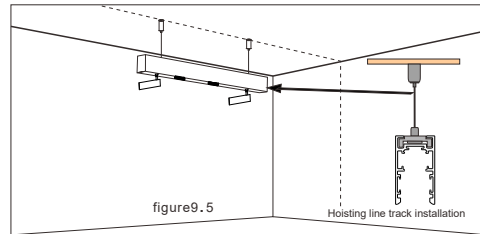

figure9.5
5. Put the magnetic absorption lamp into the magnetic absorption track, turn on the switch to test, the lamp can be normally energized and lit, and the track installation is completed. (Figure 9.5)